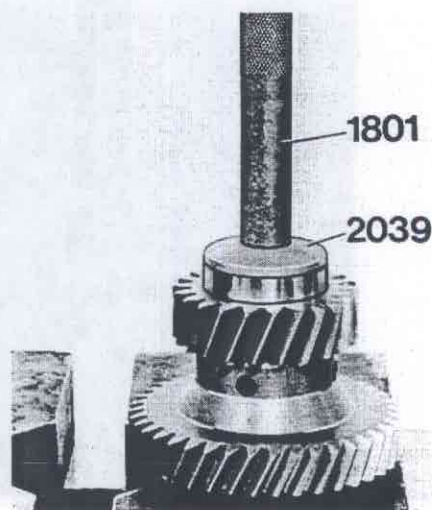

Fig. 43-166. Pressing in outer race
1. Press in the new outer races with 2014 or 2039 + 1801, Figs. 43-166 and 43-167.